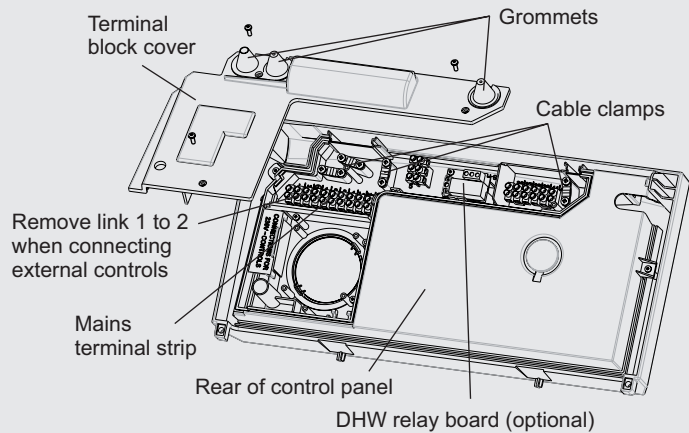

Fig. 5.14
Remove the three screws securing the terminal block cover from the back of the control box (see Fig. 5.14). Pass the mains supply cable through the grommet and cable clamp and connect as follows:- Brown to L, Blue to N and Green/Yellow to  $\oplus$ . Ensure correct polarity.
- Remove the three screws securing the terminal block cover at the rear of the control panel, see Fig. 5.14.
The Alpha DHW relay kit can be used to enable the weather compensation feature for central heating with the optional external sensor fitted and maintain a set flow temperature during hot water demand to achieve the required cylinder set temperature. This feature requires the DHW relay kit part No. 3.029422 to be fitted into the control panel as shown in Fig. 5.14.